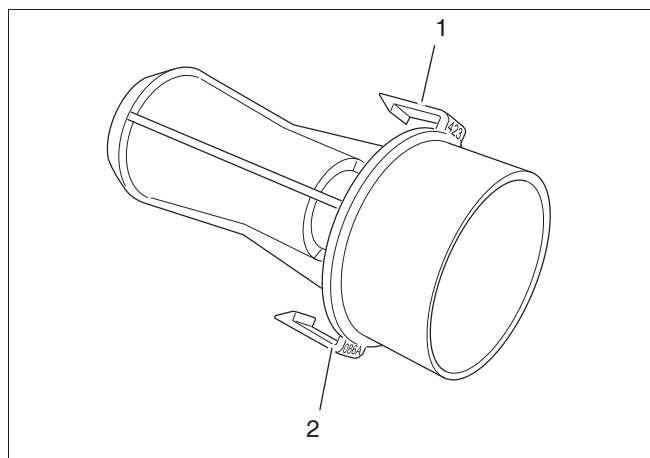

Fig. 49 Venturi article number
- The venturi article number is marked on both clips of the venturi (see fig. 49, pos. 1 and 2).